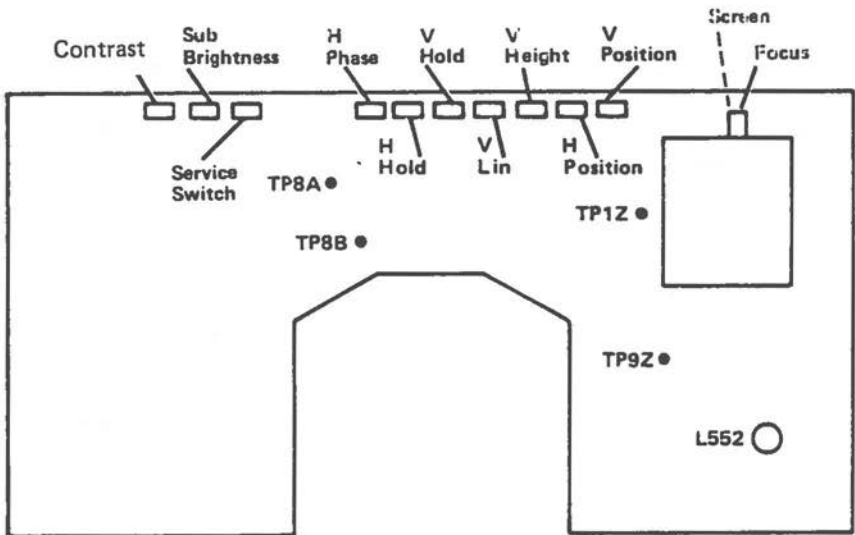

Figure 7-5 Deflector Board Adjustments and Test Points
1. To enter the Color Alignment Utility proceed as previously described, then select "3", "4" and <F4> to obtain an all white picture to begin your adjustments (refer to Figure 7-5).
1. Having obtained the Color Alignment Utility select "1" to obtain an all white test grid. Then begin your adjustments (refer to Figure 7-5).
1. Having obtained the Color Alignment Utility select "1" to obtain an all white test grid. Then begin your adjustments (refer to figure 7-5).
1. To obtain a white test grid on the screen select "1" from the Alignment Utility and refer to Figure 7-5.
1. To obtain a white test grid on the screen select "1" and refer to Figure 7-5.
2. To enter the Color Alignment phase proceed as previously described, then select "3", "4" and <F4> to obtain an all white picture to begin your adjustments (refer to Figure 7-5).